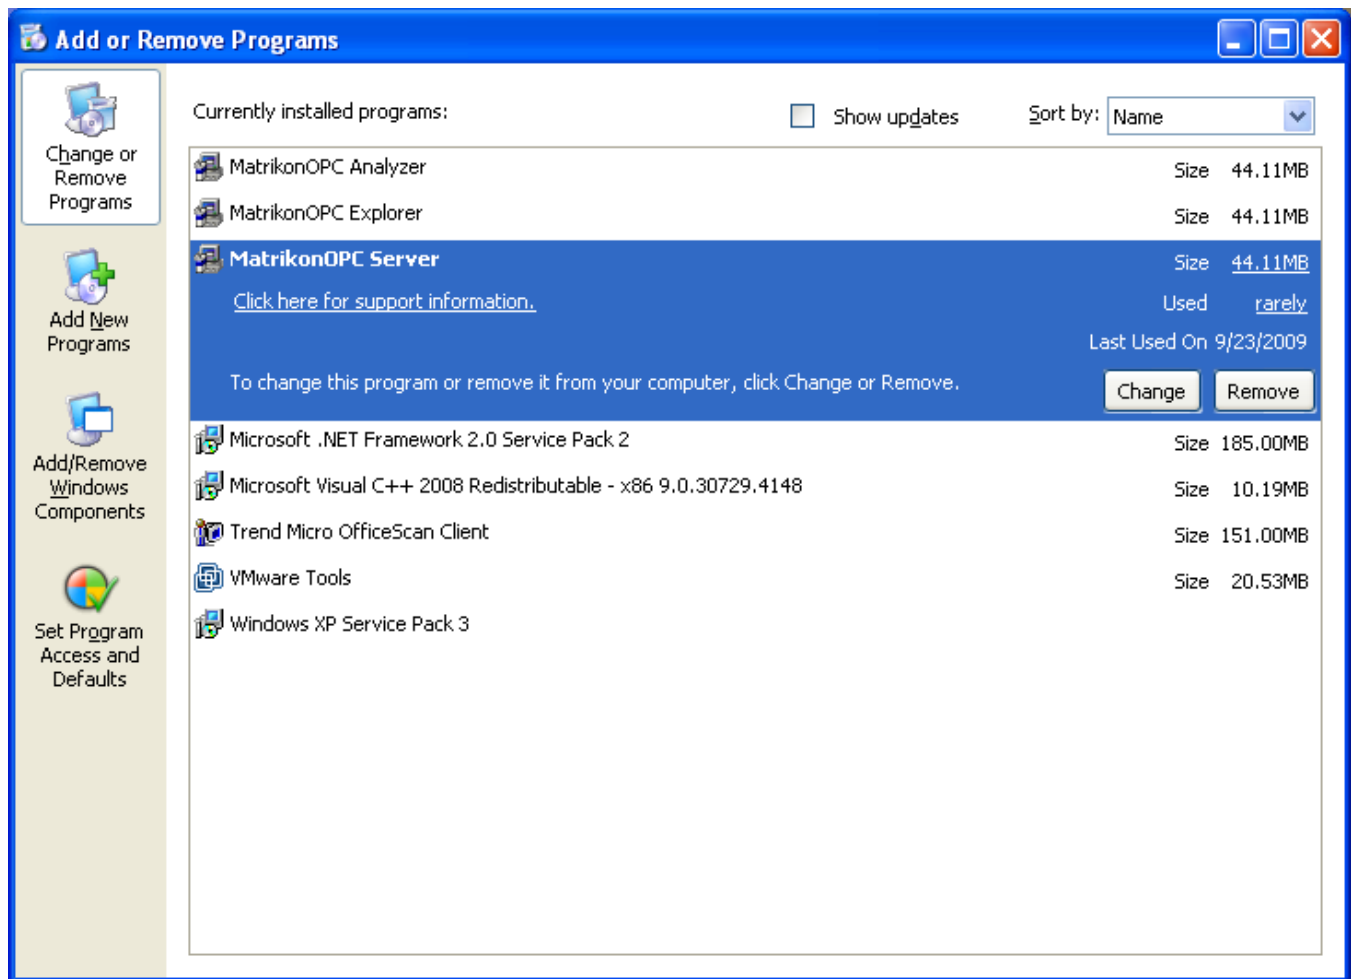

Figure 73 - Add or Remove Programs
3. The **Add or Remove Programs** window (Figure 73) is displayed.